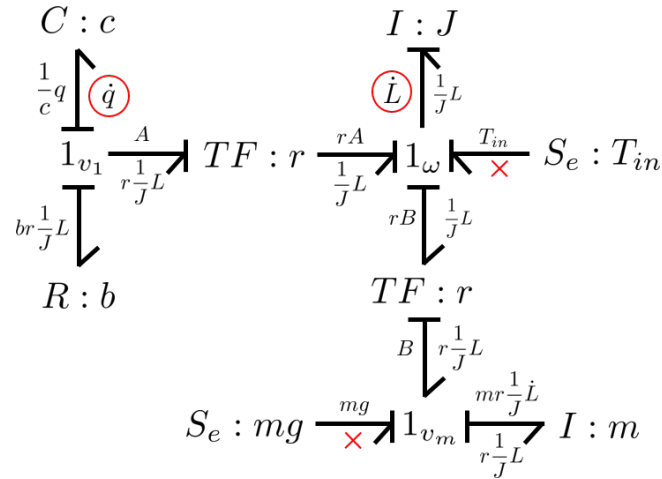

Figure 2: Bond graph of the mechanical system with propagated states.
A state-space model for the over-causal system can be resolved by first assigning states to all energy-storing components in integral causality. Propagation follows the standard procedure, with the exception that the inertia in derivative causality requires application of the inverse of the standard inertia CCRs. The complete bond graph with power variables fully propagated is shown in Figure 2 where
- a) An implicit expression describing \dot{L} can be extracted from the bond graph shown in Figure 2, given by